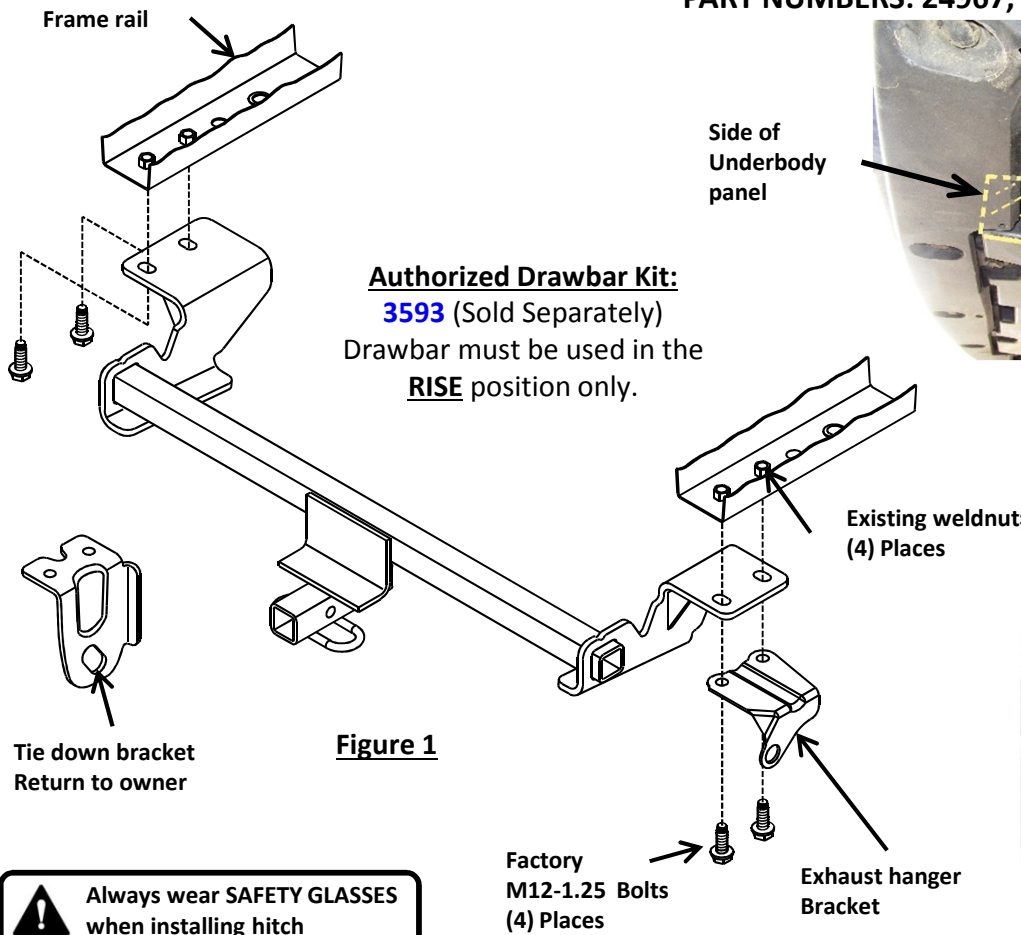
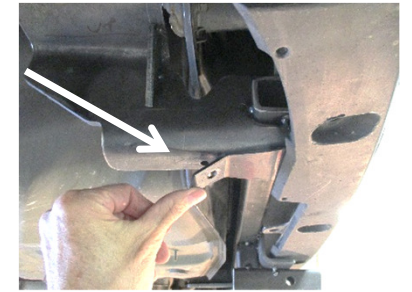

Figure 1
Figure 4
- Install hitch** – raise hitch into position, raising the driver's side of hitch into position first, position bracket above carbon canister hoses, then raise the passenger's side into position. **See Figure 1**.
- Reinstall fasteners** - Loosely reinstall the (4) factory M12 bolts (and exhaust hanger bracket on passenger's side) into existing weldnuts in frame. **NOTE: The hitch is sandwiched between the exhaust hanger bracket and frame. See Figure 1.**
- Reinstall the underbody panel** using (4 of 6) push-pin rivets, (4) threaded fasteners, and (1) hex nut.
- Secure Fascia tabs** -Using (2) cable ties provided, secure (2) rear fascia tabs to bottom of hitch bracket. Trim excess ends of cable ties. **See Figure 4**.
6. Install hitch – raise hitch into position, raising the driver's side of hitch into position first, position bracket above carbon canister hoses, then raise the passenger's side into position. See Figure 1.
7. Reinstall fasteners - Loosely reinstall the (4) factory M12 bolts (and exhaust hanger bracket on passenger's side) into existing weldnuts in frame. **NOTE:** The hitch is sandwiched between the exhaust hanger bracket and frame. **See Figure 1.**